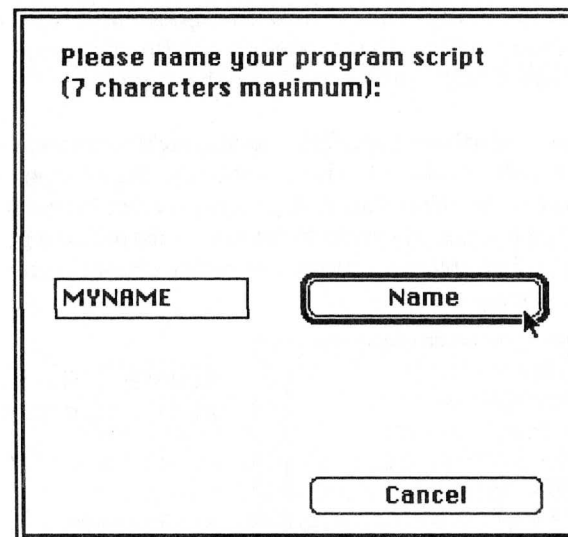

Figure 8-2 The Script Name dialog box
All the buttons in this dialog box will be explained in a moment. For now, click the *New Script* button. Another dialog box will appear, prompting you to name the new script you are about to create (Figure 8-2).
- ❑ **Rename** button will display the dialog box shown in Figure 8-2. Click the *Cancel* button if you do not wish to rename the script. Otherwise, type in the new name and click the *Name* button. The **Rename** button will be grayed out if there are no scripts in memory.
Global Labels are entered into scripts as "LBL NAME"; LBL is the script function name for label, and NAME is an up-to-seven character label name you type using capital letters. There should be a space after the LBL instruction. A *Script Name* is the name you provide the PRGM dialog box (Figure 8-2) when you create your script. If you do not implicitly type an LBL instruction at the start of your script, the script name will be inserted automatically when you finish editing the script.